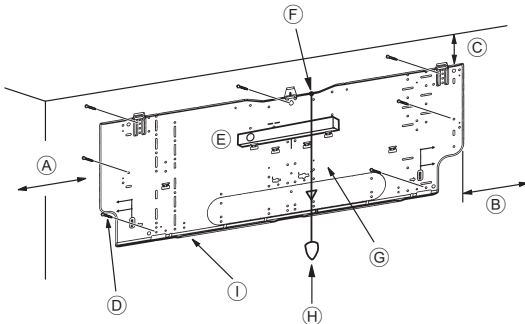
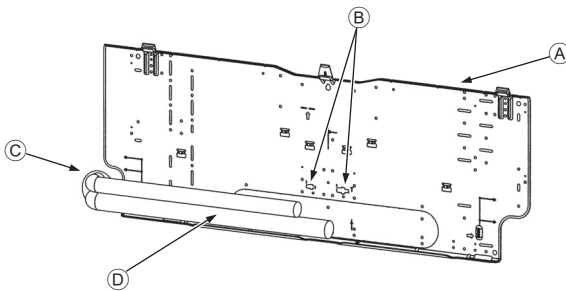

Fig. 3-4
Fig. 3-5
■ PKA-A-KA(L) (Fig. 3-4)
- Ⓓ Fixing screws (4 × 25) ②
- Ⓘ Mount board ①
3.3. When embedding pipes into the wall (Fig. 3-5)
- Ⓐ Mount board ①